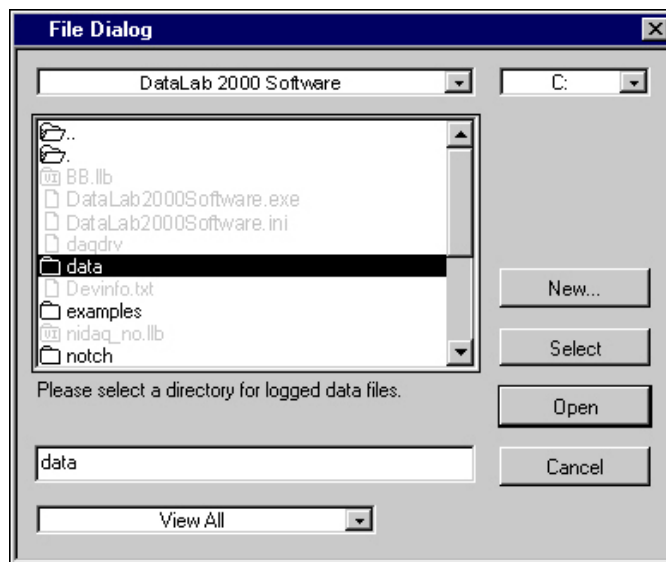

Figure 5-2. File Dialog Box
- **Browse**—Displays the File Dialog box which allows you to select or create a desired directory for the base path. Figure 5-2 shows the File Dialog box.